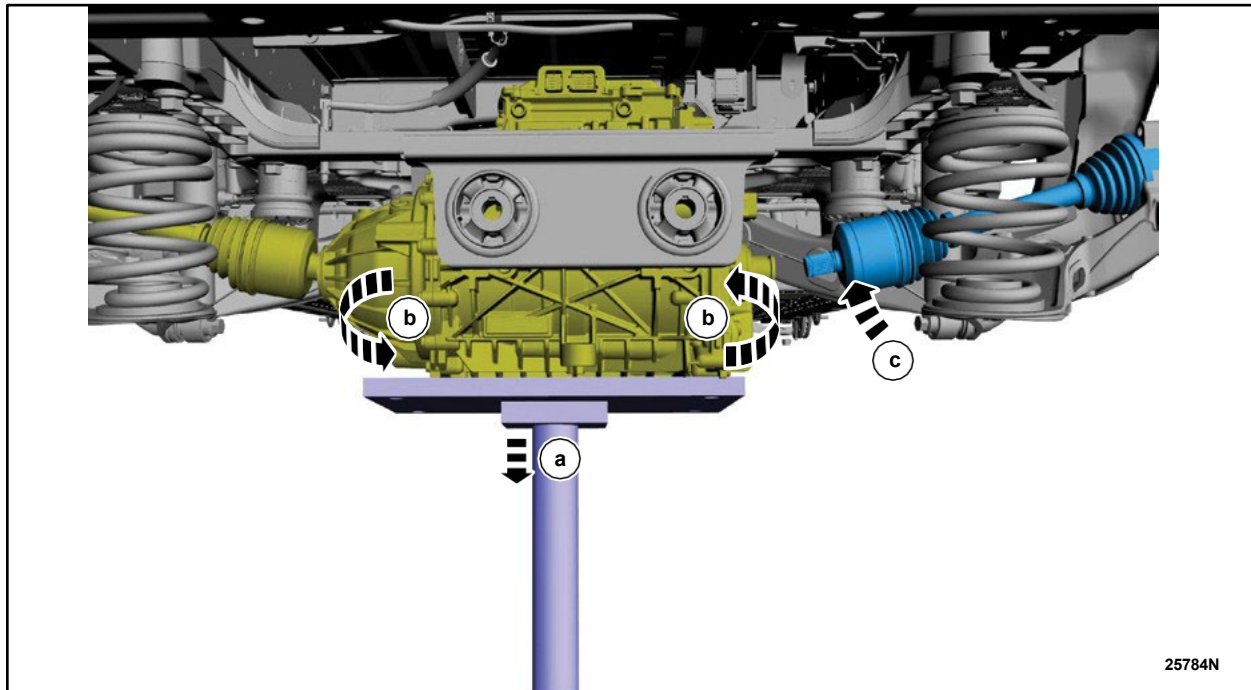

FIGURE 18
22. Perform the following steps to remove the RH halfshaft from the electric drive assembly (hub stays intact). See Figure 18.